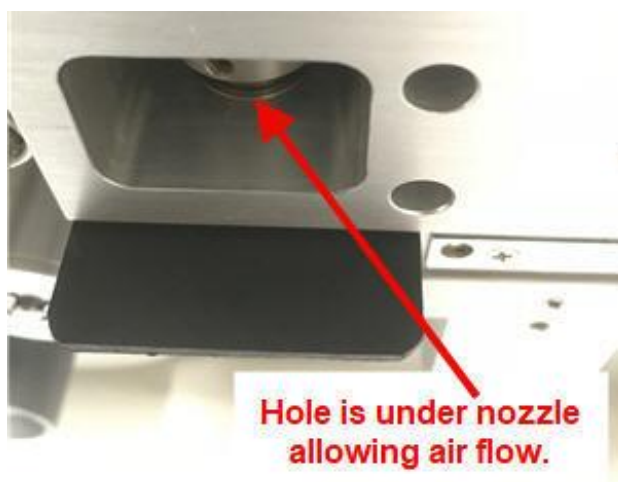

Figure 2-2 Nozzle Seal Tool with Hole Under the Nozzle
2. Remove the filter tape from beneath the nozzle and insert the Nozzle Seal Tool with the hole positioned beneath the nozzle. See Figure 2-2.
3. The Nozzle Seal tool may already be installed with the hole positioned beneath the nozzle (see Figure 2-2). If this is not the case, press the NOZZLE button to raise the nozzle (if needed), position the sealing tool in this configuration, and then lower the nozzle.